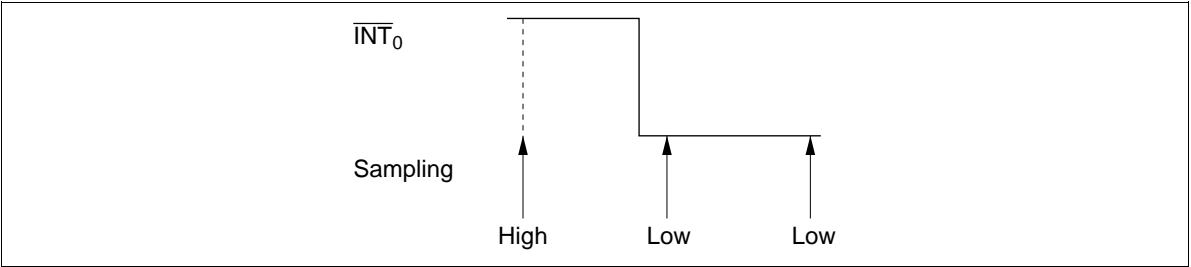

Figure 19 Edge Detection
- When the MCU is in watch mode or subactive mode, if the high level period before the falling edge of $\overline{\text{INT}}_0$ is shorter than the interrupt frame, $\overline{\text{INT}}_0$ is not detected. Also, if the low level period after the falling edge of $\overline{\text{INT}}_0$ is shorter than the interrupt frame, $\overline{\text{INT}}_0$ is not detected. Edge detection is shown in figure 19. The level of the $\overline{\text{INT}}_0$ signal is sampled by a sampling clock. When this sampled value changes to low from high, a falling edge is detected.